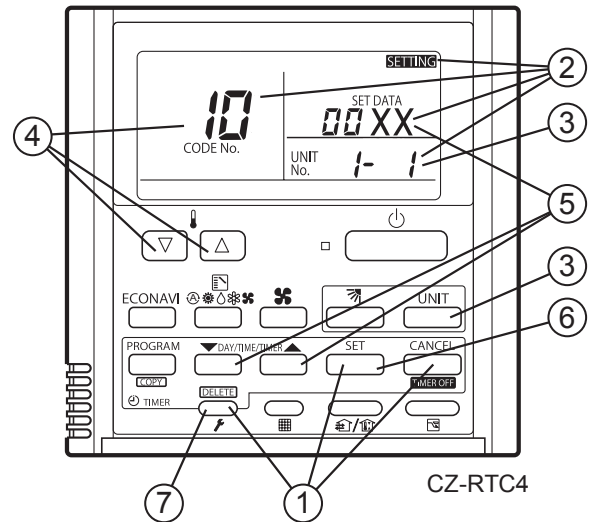

Fig. 7-3
- "SETTING", unit No. "1-1" (or "ALL" in the case of group control), item code "10," and settings data "00XX" are displayed blinking on the remote controller LCD display (Fig. 7-3). At this time, the indoor unit fan (or all indoor unit fans in the case of group control) begins operating.